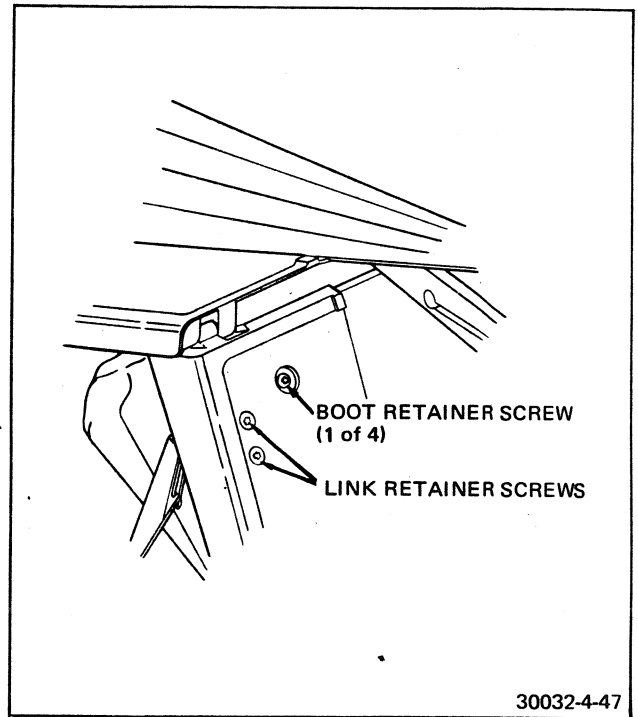

FIGURE 4-47 LOCATION OF BOOT LINK AND RETAINER SCREW
7. Remove the inner-frame-to-boot retainer screws indicated in Figure 4-47.